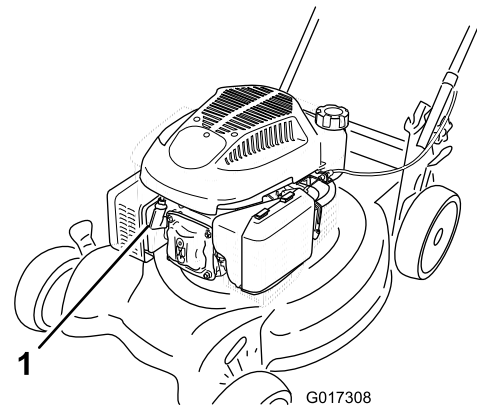

Figure 29
- Disconnect the spark-plug wire from the spark plug (Figure 29) before performing any maintenance procedure.